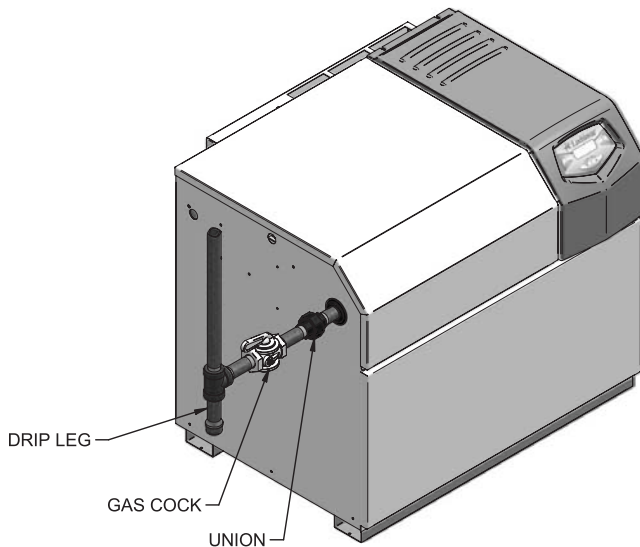

Figure 6-1 Gas Line Connection to unit w/sediment trap and manual main gas shut-off valve
5. Install a sediment trap (drip leg) in the supply line to the pool heater's gas inlet (see FIG. 6-1).